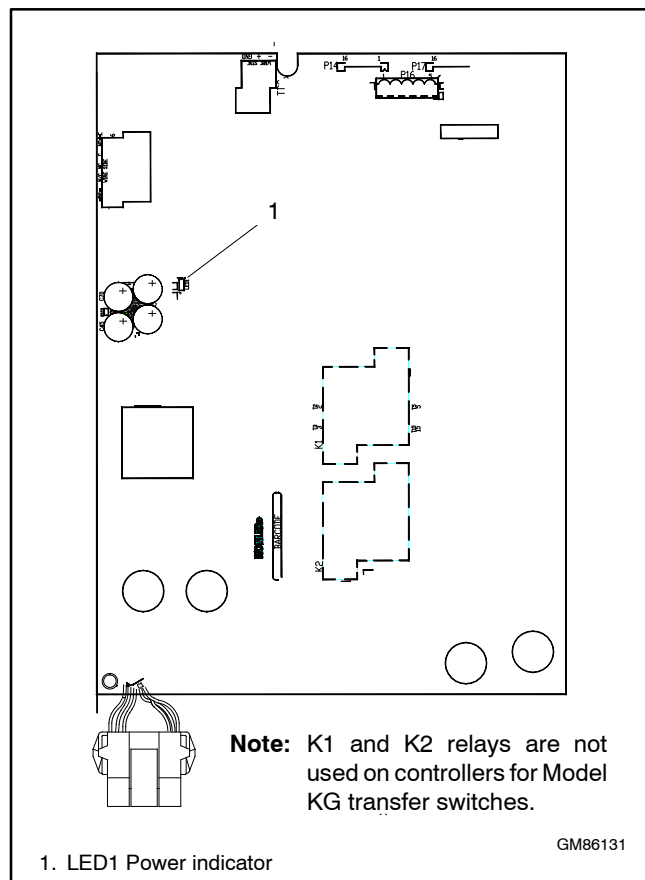

Figure 6-8 LED1 Location on MPAC Controller Circuit Board
The controller circuitry converts AC line voltage to DC voltage. Line voltage or DC voltage from an external battery connected through an External Battery Supply Module (EBSM) will cause LED1 on the controller's power board to light. See Figure 6-8 for the LED location.
- If the Normal or Emergency source is available but the controller display is dark, check LED1 on the controller power board. LED1 lights when voltage is available for the controller. See Figure 6-8.